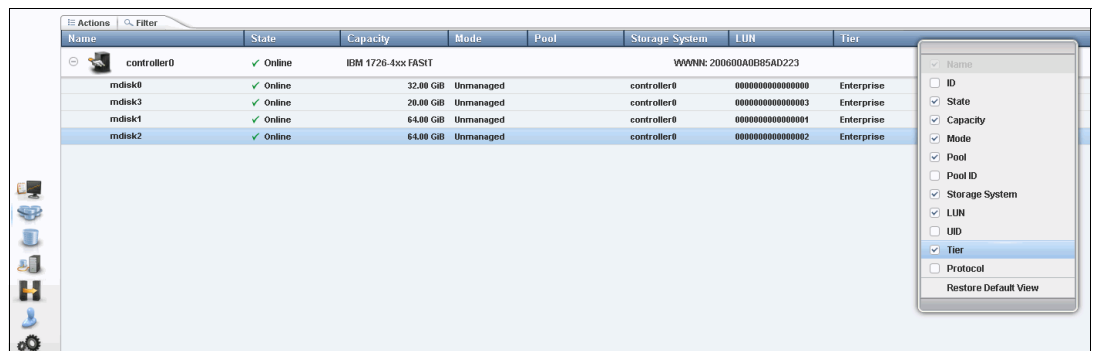

Figure 7-6 Customizing the title row to show the tier column
4. If you do not see the *Tier* column, right-click the blue title row and select the **Tier** checkbox, as shown in Figure 7-6.